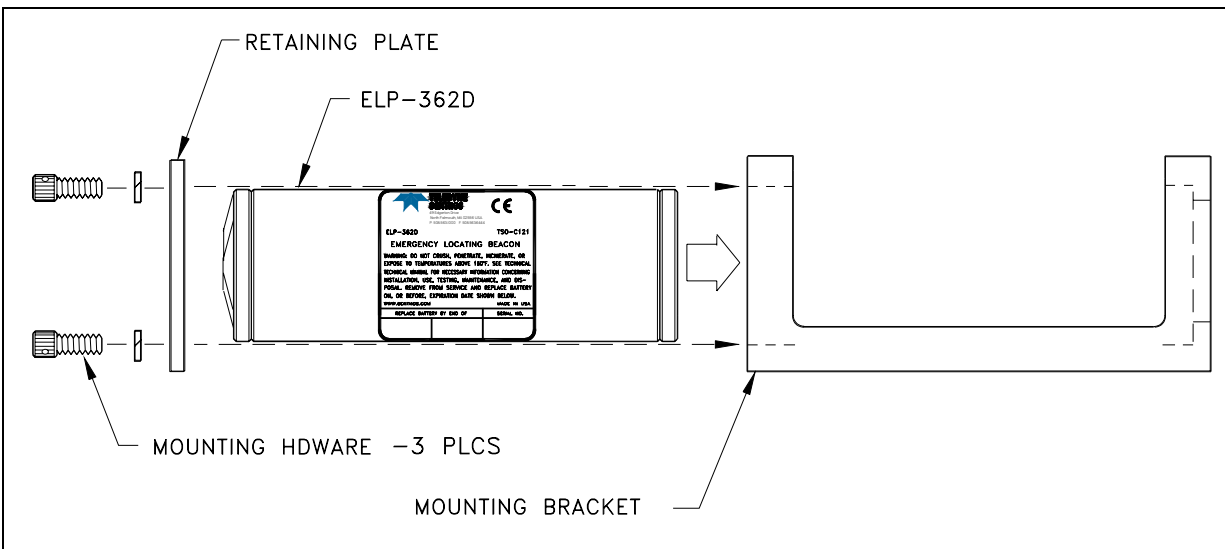

Figure 3-3 Installing the Beacon into the Mounting Bracket
Figure 3-3 Installing the Beacon into the Mounting Bracket	8
3. Slide the beacon into the bracket as shown in Figure 3-3. Rotate the beacon until the battery date is visible and secure it in place with the end plate and the three drilled socket head cap screws.